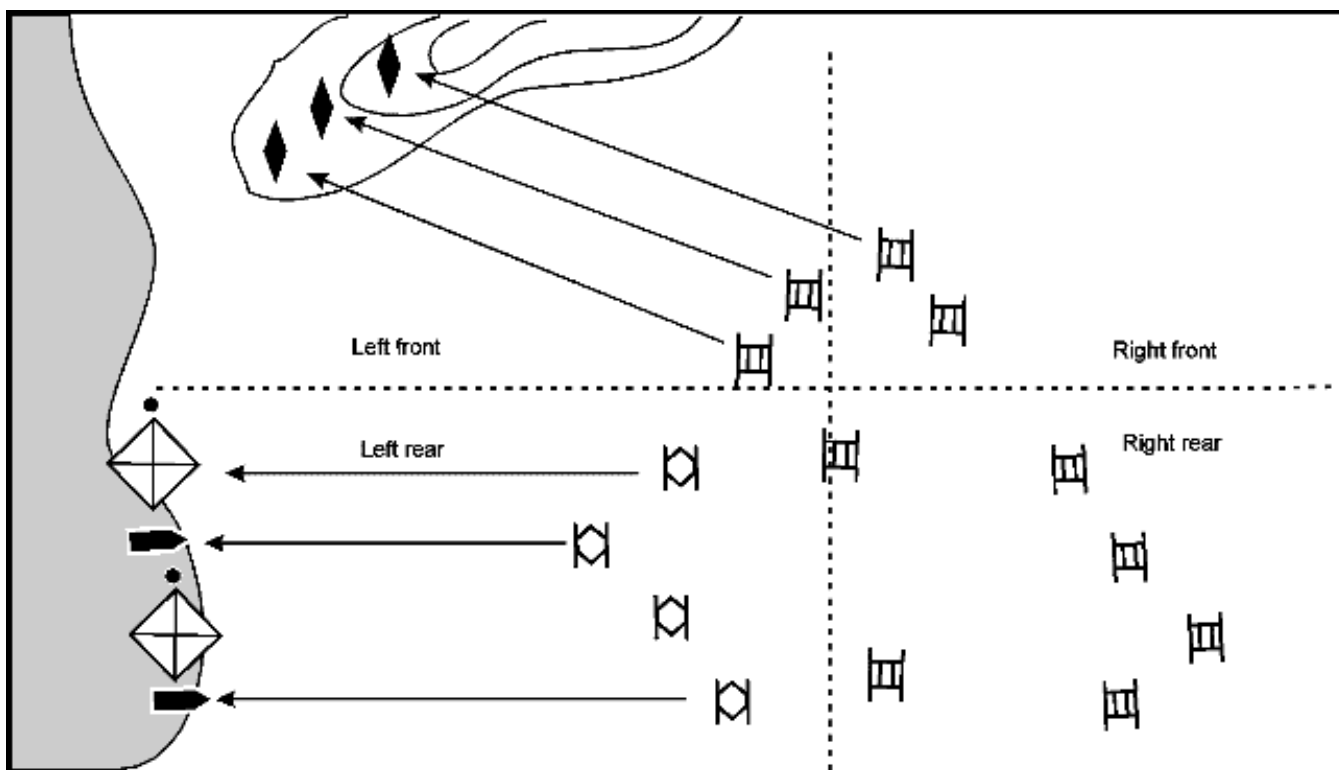

Figure 2-19. Example of friendly-based quadrants.
**Friendly-based quadrant.** The friendly-based quadrant technique entails superimposing quadrants over the unit's formation. The center point is based on the center of the formation, and the axes run parallel and perpendicular to the general direction of travel. For rapid orientation, the friendly quadrant technique may be better than the clock direction method; this is because different elements of a large formation are rarely oriented in the same exact direction and because the relative dispersion of friendly forces causes parallax to the target. Figure 2-19 illustrates use of friendly-based quadrants.